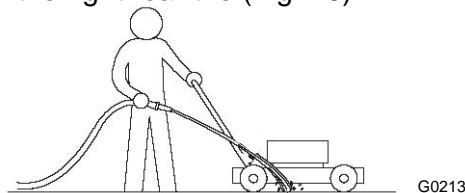

Figure 20
3. Hold the running garden hose a handle level and direct the water to flow on the ground just in front of the right rear tire (Fig. 20).